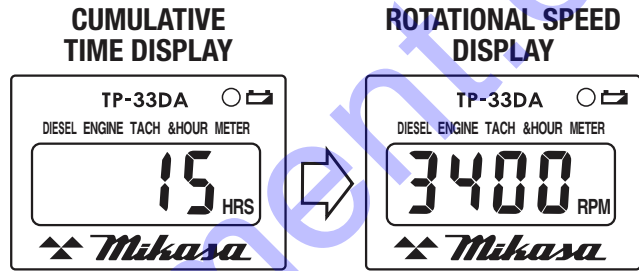

Figure 41. Tachometer/Hour Meter (Rotational Speed)
- Once the engine starts running, the tachometer/hour meter will display **rotational speed (RPM)**. See Figure 41.